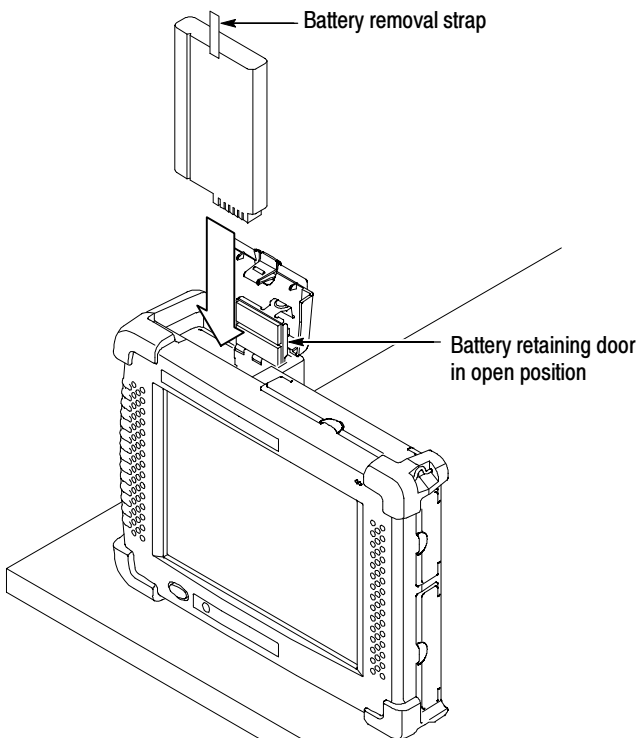

Figure 1-4: Installing a battery
7. Position the battery above the analyzer. The electrical contacts on the bottom of the battery must face in the direction shown in Figure 1-4.